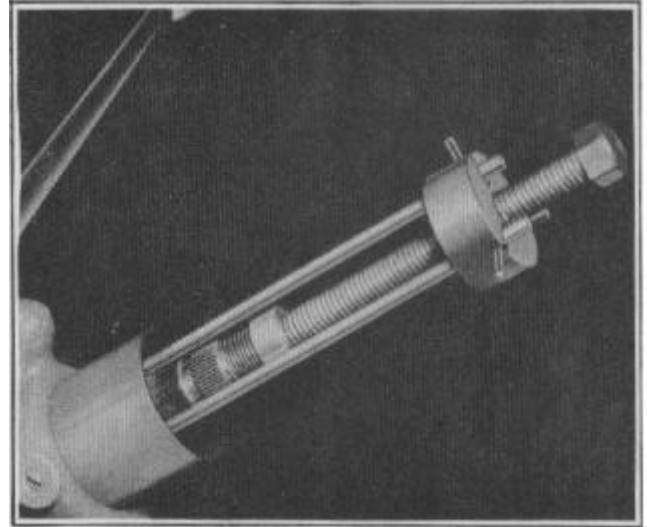

FIGURE 5
2. Engage the fingers of "Bearing Puller J-2792" below the bearing and place locating pins in slots provided in head of puller. Turn the center screw against the steering wheel nut removing bearing, Figure 5.